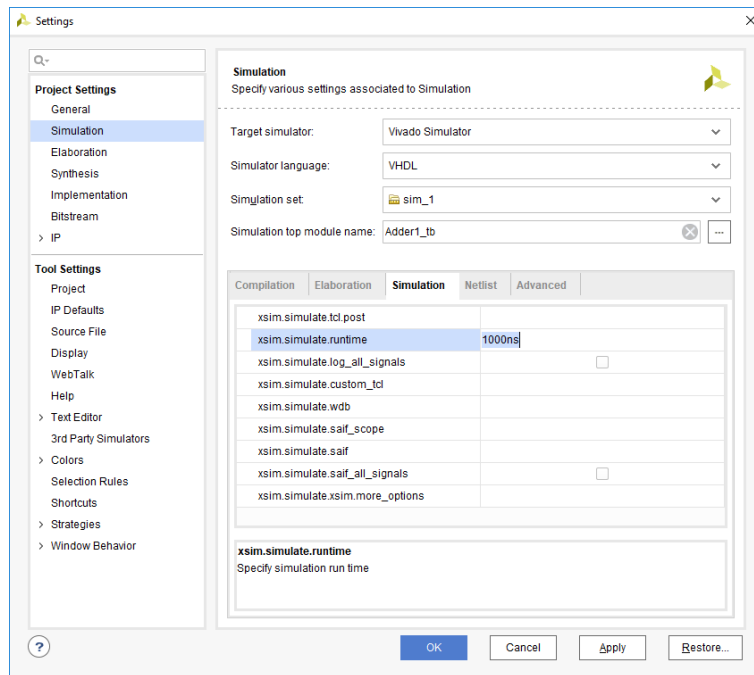

Figure 16. Simulate the Design for 1000 ns
- e. Simulate the design for 1000 ns using the XSIM simulator. Click the *Settings* entry under the *PROJECT MANAGER* tasks of the *Flow Navigator* pane, select the *Simulation* tab, and change the simulation time to **1000 ns** as shown in Figure 16.